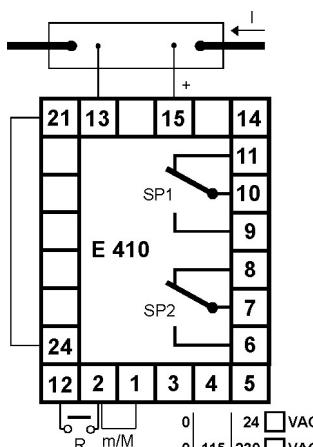

Fig.4
- **E 410A:** misura mediante shunt (60mV): pin 15-13 (+ su pin 15), eseguire il cavallotto 21-24 (fig.4).
- **E 410A:** it measures by means of a shunt (60mV): pin 15-13 (+ on pin 15), make the jumper link 21-24 (fig.4).